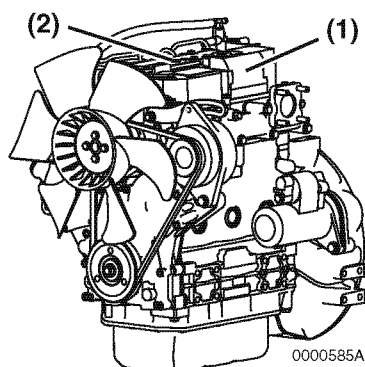

Figure 4
Figure 4 shows the location of regulatory and safety labels on Yanmar TNV series indirect injection model engines.
The typical location of the emission control information label is shown **(Figure 4, (1))**.
Typical location of the engine nameplate is shown **(Figure 4, (2))**.